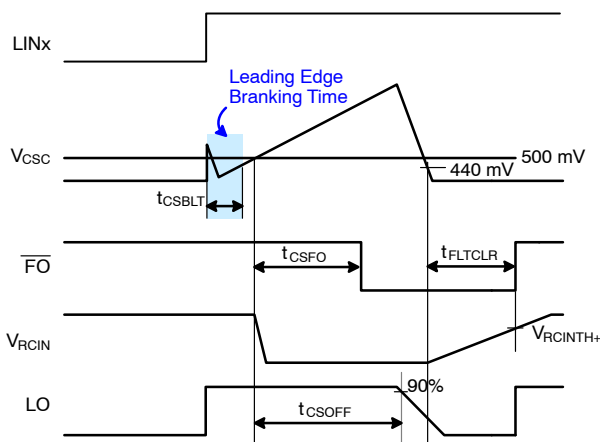

Figure 43. RCIN and Fault-Clear Waveform Definition
Figure 43 shows the waveform definitions of RCIN, \overline{FO} , and the low-side driver; which uses a soft turn-off method when an under-voltage condition of the low-side gate driver supply voltage (V_{DD}) or the current-sense pin (CS) recognizes a fault. If a fault condition occurs, the \overline{FO} Pin is internally pulled to COM and all outputs (HO1, 2, 3 and LO1, 2, 3) of the gate driver are turned off. Low-side outputs decline linearly by the internal sink current source ($I_{SOFT} = 40 \text{ mA}$) for soft turn-off, as shown in Figure 43.